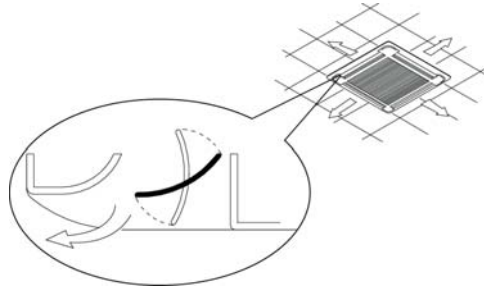

Fig.3
4. It is recommended to position the unit as centrally as possible in the room to ensure optimum air distribution. (Fig.3)